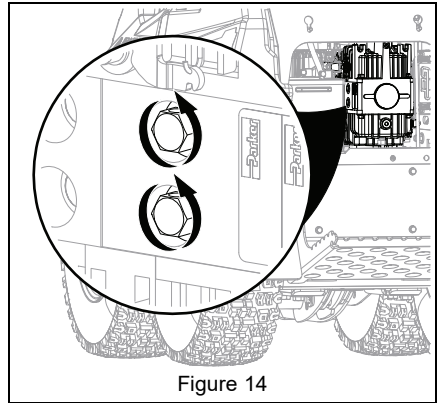

Figure 14
3. Turn both bypass valves two complete turns counter-clockwise to the bypass position. See Figure 14.